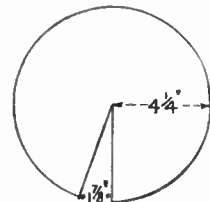

Fig. 7 Correct shape of the cone cover
To get the correct shaping of the cone cover, which is to fit on the circular top, as (J) in Fig. 3 and in the sketch, see the diagram Fig. 7. In this diagram is shown the correct manner of cutting the material—stout card—to fit the top and the projecting upright spindle properly. Describe a circle with the compasses, using the radius measurement given, then set out the vee piece $1\frac{1}{2}$ ins. wide as shown. Cut this vee piece out, but leave about $\frac{1}{4}$ in. as a tab on one side for lapping and gluing underneath to hold the cone well together. Draw the divisions on the cone and paint in bright colours. To do this successfully, take a pair of dividers, or a pair of compasses will do, and step round with these, say, twelve divisions. This will ultimately give six divisions of each colour, e.g. red and cream as suggested in our sketch. A little flag, made of stout paper or card can be threaded on a stout pin and inserted at the point of the spindle.
Fig. 7 shows another turnery novelty. We have what appears to be a rather